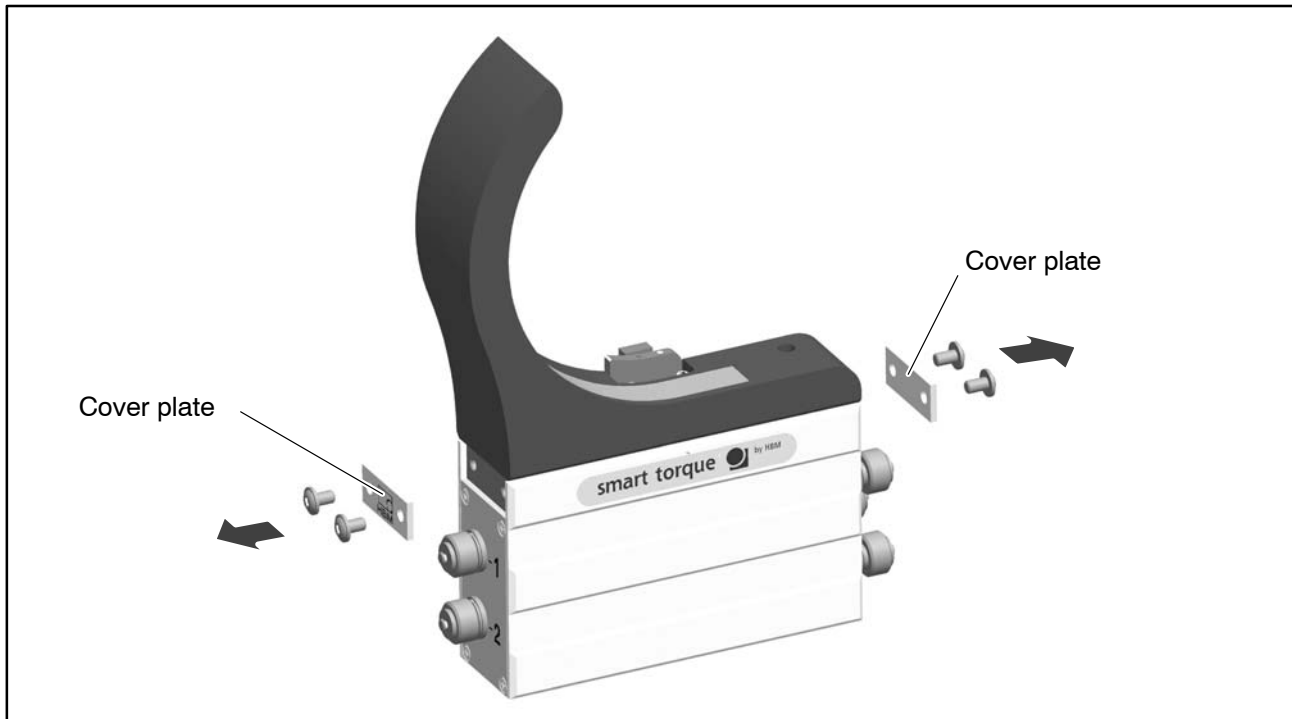

Fig. 6.4: Cover plates on the stator housing
1. Remove the side cover plates on the stator housing (see Fig. 6.4.)